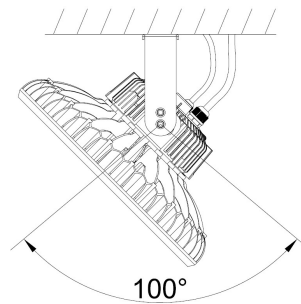

Figure 7
4. After installation, please wire in accordance with local connection standard, and make sure there are good joint protective measures. Users can adjust 50 degree to left or right in vertical direction by adjusting the screw on the bracket. (Figure 7).